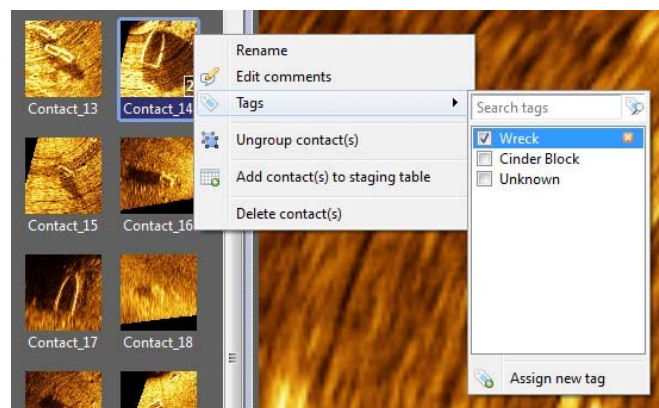

Figure 85. Assigning Tags
- Right-click on a thumbnail/contact, hover over **Tags** and click the checkbox next to any tags to check it (Figure 85). Click anywhere outside the context menu to hide the menu.